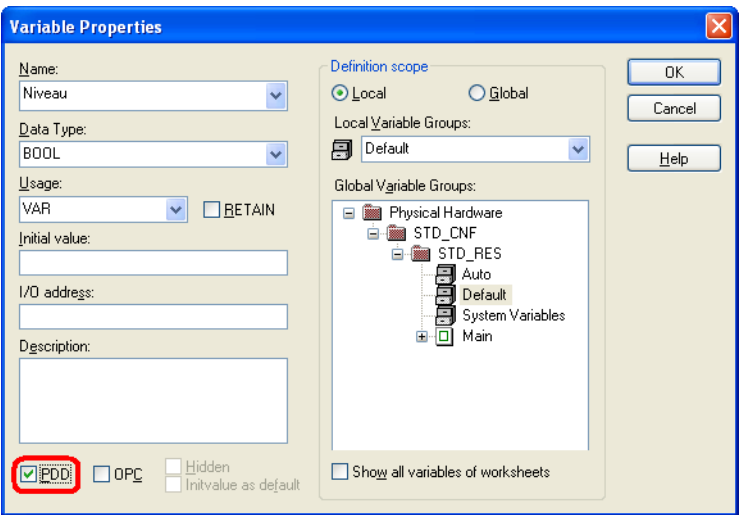

Figure C-13 Creating variables for WebVisit
- In the "Variable Properties" window (Figure C-13)